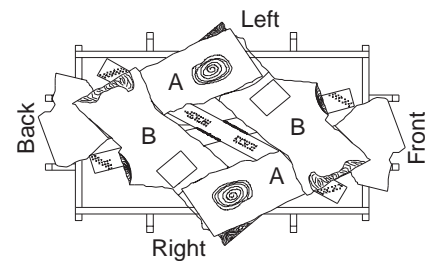

Figure 46 - Installing Logs "B" (Top View)
9. Place logs "B" as shown in Figure 46. Lift the end of log "A" that will be propped up and place log "B" under it. At the same time, the other side of log "B" is placed over the other log "A". Repeat procedure for the other log "B".